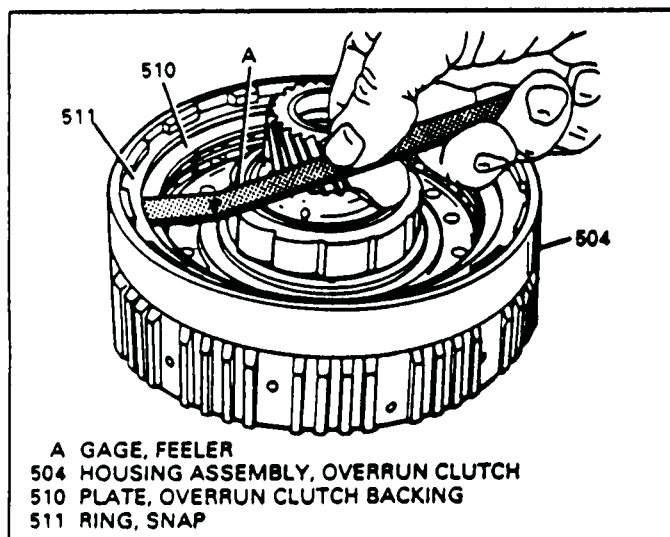

Figure 95
11. Measure overrun clutch clearance with a feeler gage, as shown in Figure 95.